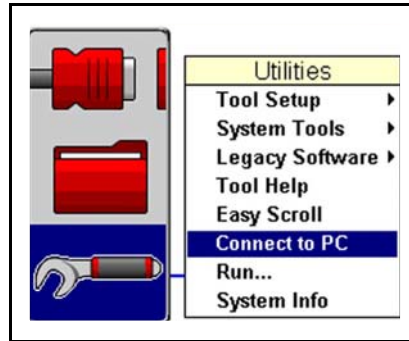

Figure 5-2 Typical Utilities Menu
2. From the Main Menu, select **UTILITIES > Connect to PC** (Figure 5-2), and then press **Y**.